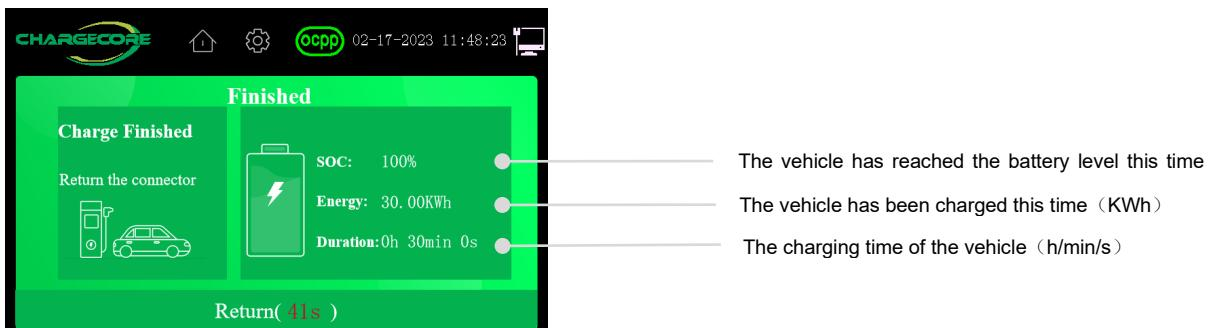

Figure 49. Order details interface
6.3.5 Pay the order and view the order details (as shown in Figure 49)